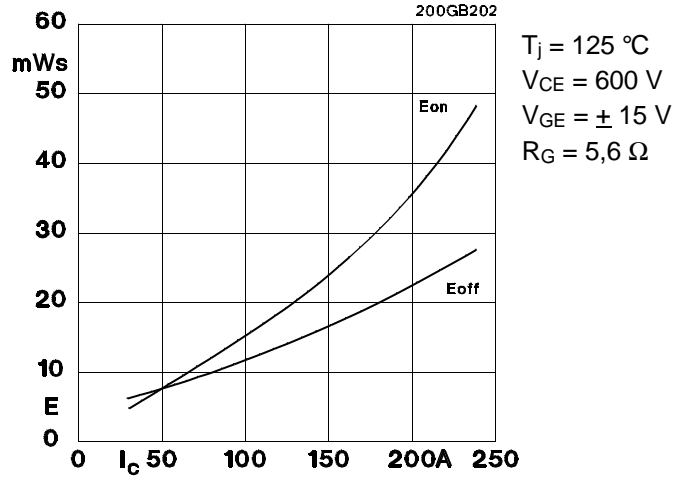

Fig. 2 Turn-on /-off energy  $= f(I_C)$
5) See fig. 2 + 3; RGoff = 5,6 Ω